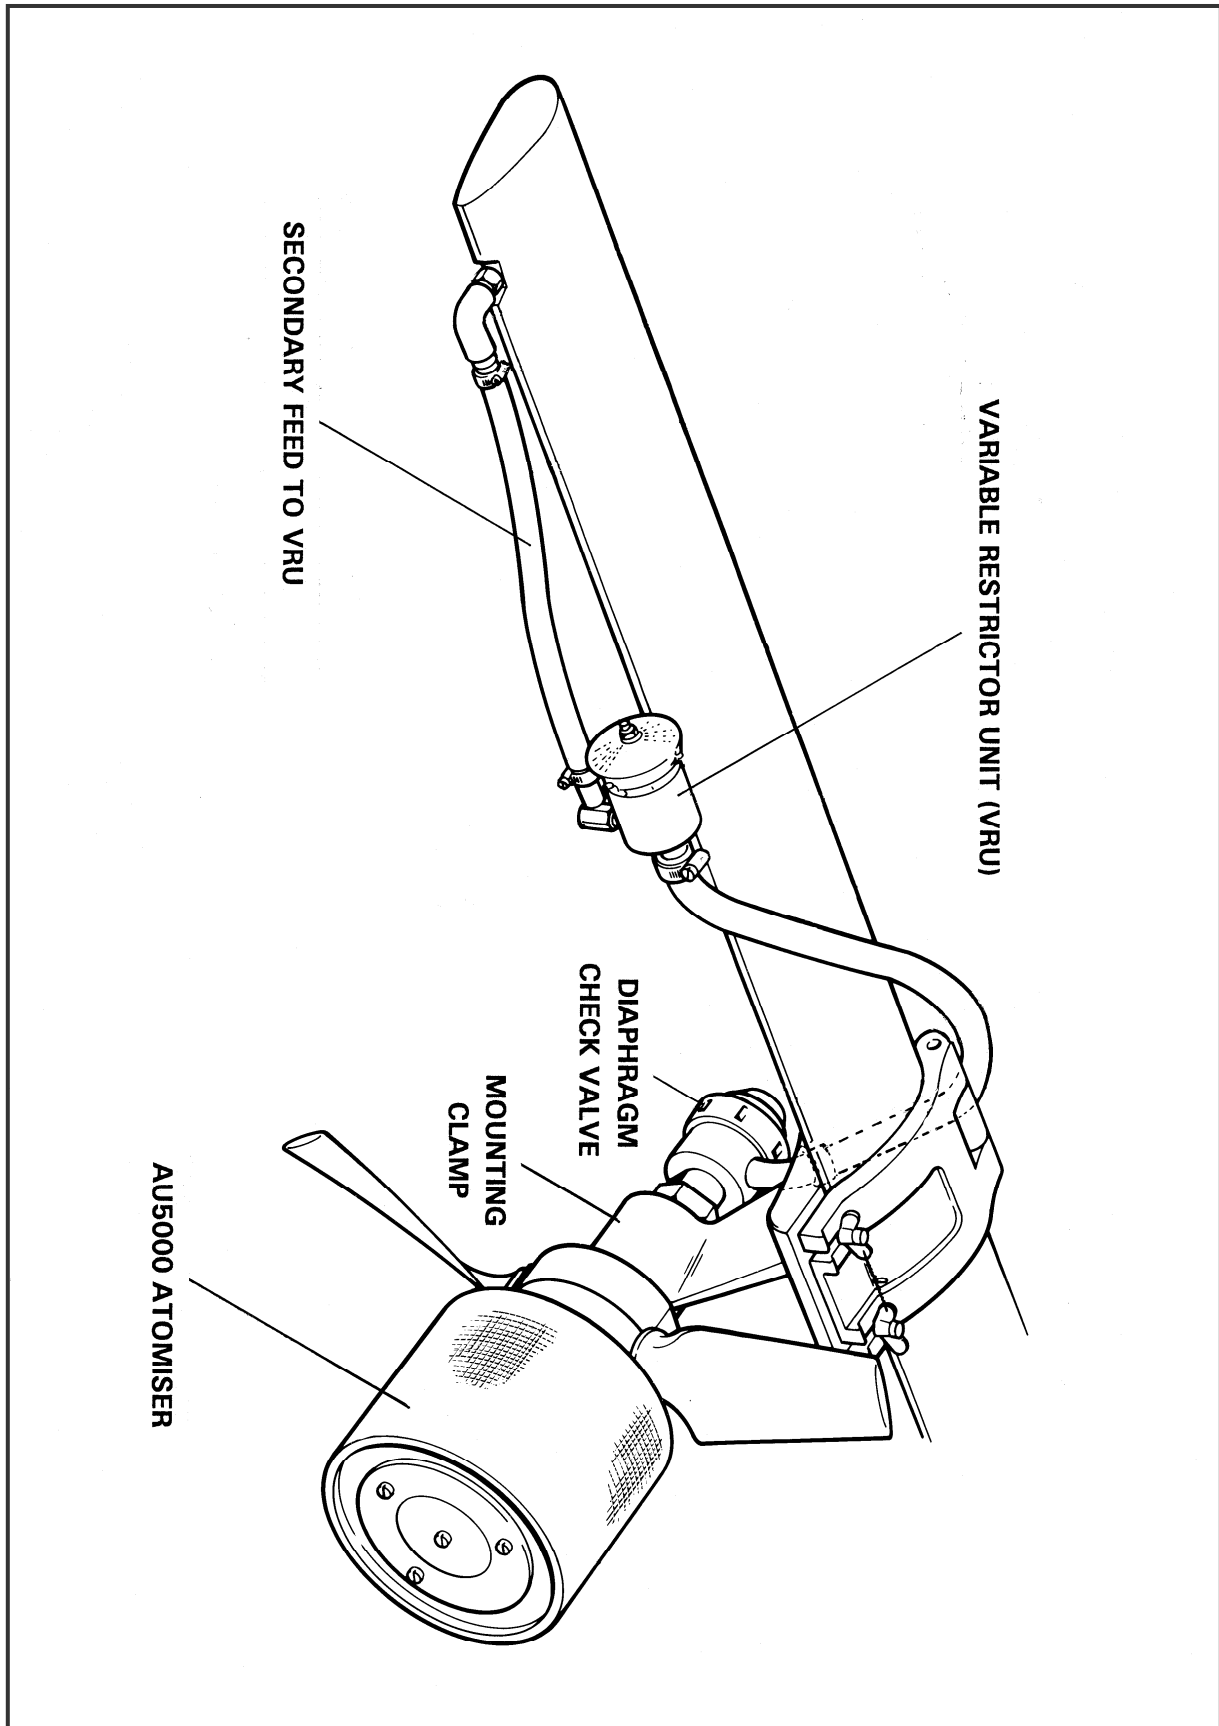

Fig. 1 – Typical Installation of AU5000 Atomiser
5. Install an atomiser mounting clamp at each position marked in (3) above. Secure each clamp, using the wing nuts provided. Wire lock the two wing nuts. In the case of round booms: the clamps should be fitted over the locating pegs installed in (4) above, ensuring that each peg is correctly aligned in the hole of the clamp and that the atomiser mount protrudes to the rear of the aircraft. For round booms of less than 1.25" (32 mm) diameter, clamps are supplied with reducing bushes to suit the boom diameter. These must be fitted between the boom and clamp according to the instructions on the installation drawing.
7. Either close the unused VRU inlet pipe with the appropriate cap nut (EX1670 for the 1/8" thread or EX1671 for the 1/4" thread) or use the 1/4" inlet as a second feed from the boom. The second feed should be used if the flow rate through each atomiser is likely to exceed 7 litres/min (1.8 USG/min) and the 1/8" inlet is used. See Fig. 1 for details of the installation of this additional feed.